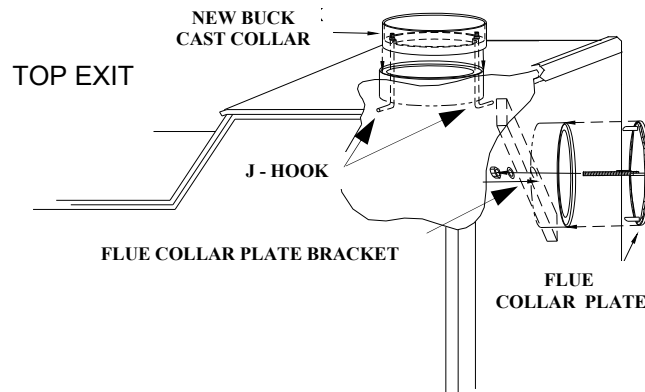

Figure 26.
7. Next fasten New Buck’s cast collar Part number MA6CHIMCNB to the flue exit of stove to be used, using the J hook’s provided. Position collar with gasket towards the unit, tighten the J hook’s **Firmly** . (See Figure 26).